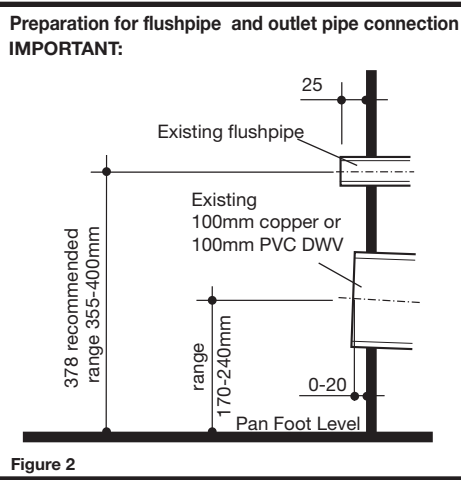

Figure 2
- 2- Cut the flushpipe 25mm from finished wall. Recommended height for the flushpipe is 378mm from the pan foot level, with a range from 355 to 400mm. Cut the outlet pipe to 0-20mm from wall to remove existing pan collar. Outlet pipe connection range is 170 to 240mm from pan foot level as detailed in **Fig. 2**.